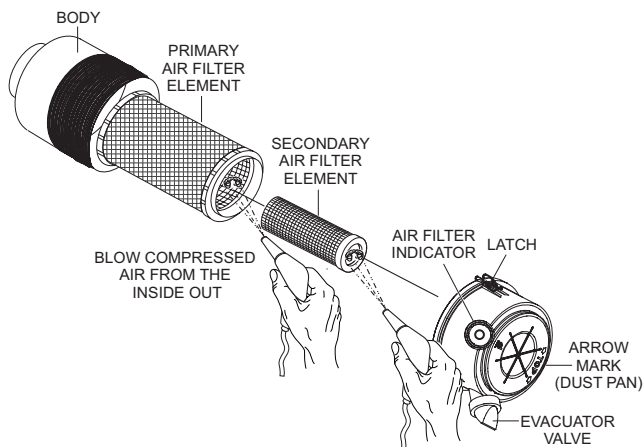

Figure 120. Engine Air Cleaner
This Isuzu diesel engine is equipped with a replaceable, high-density, paper air cleaner element (Figure 120). The air cleaner is also equipped with an inner (secondary) element that is used as a backup filter should the primary element become damaged. Check the air cleaner daily or before starting the engine. Replace the air cleaner as needed.
1. Release the latches that secure the cover to the air cleaner body (Figure 120).
2. Remove the air cleaner cover (Figure 120) and set it aside.
3. Remove both the primary and secondary air cleaner elements (Figure 120).
5. To clean the primary element (paper air filter) as shown in Figure 120, tap the filter element several times on a hard surface to remove dirt, or blow compressed air, not to exceed 30 psi (207 kPa, 2.1 kgf/cm²), through the filter element from the inside out.
8. Clean the inside of the air cleaner body (Figure 120).